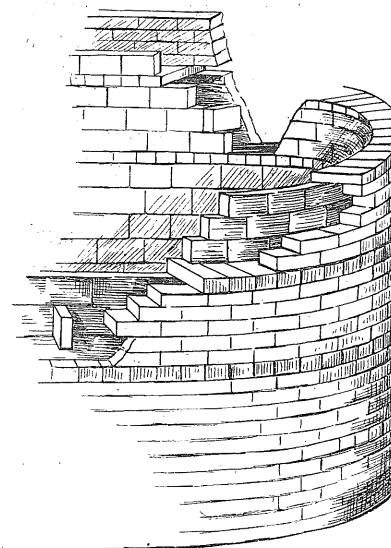

FIG. 17.—SECTION THROUGH A BRICK SILO
68. What about the double-wall brick silo? It is as nearly frost-proof (Fig. 17) as a silo need be built. The double wall